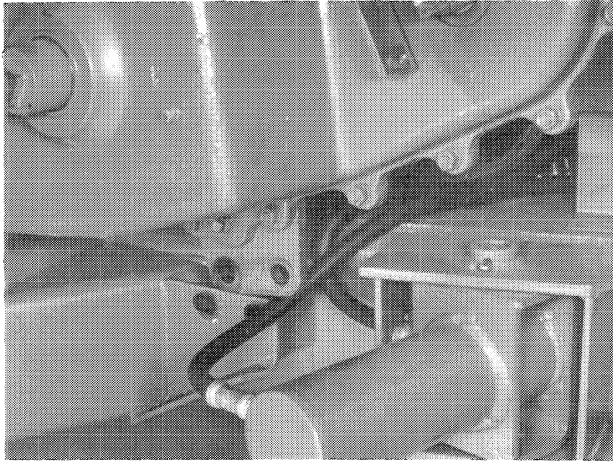

FIGURE 2-33
14. Lift the gearbox until the gearbox clears the lower mounting bracket as shown in Figure 2-33.